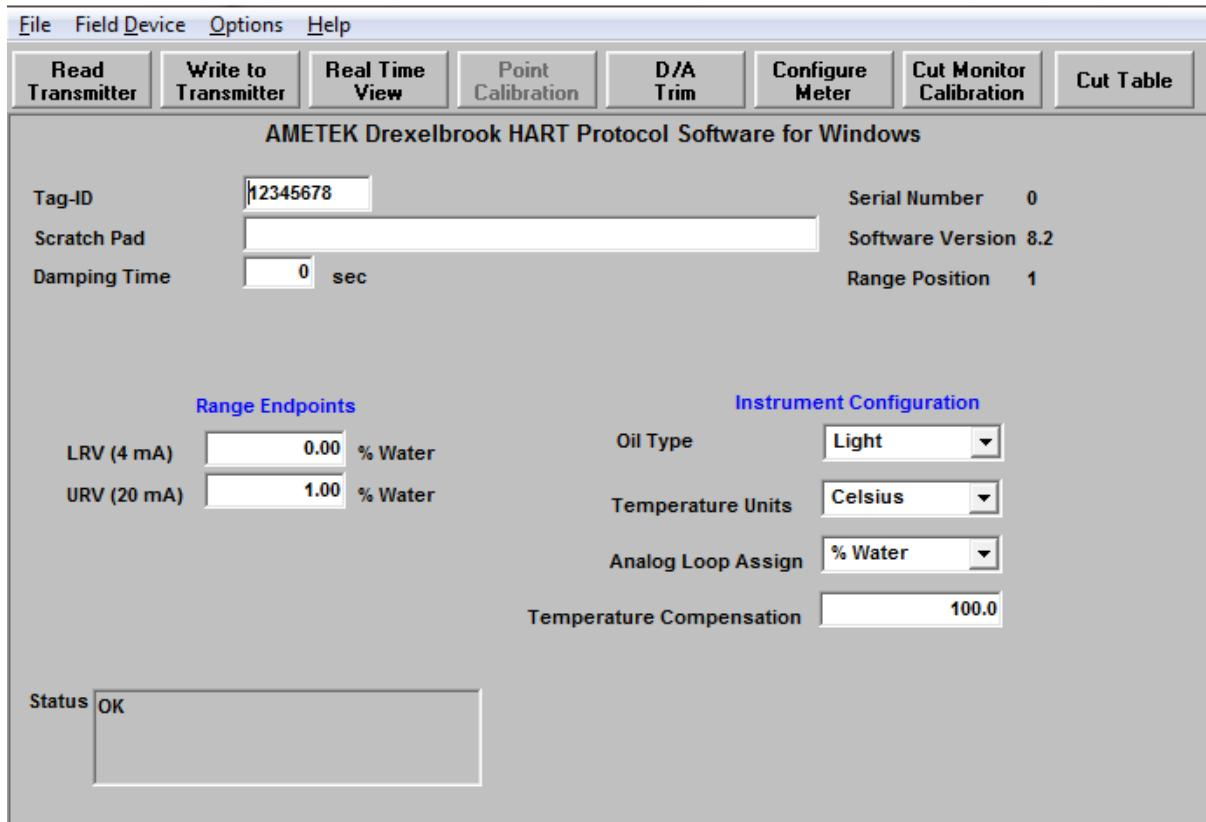

Figure 3-3
- D. The next view, shown in **Figure 3-3**, appears automatically, displaying current transmitter database for calibration set-up for your selected Tag ID. The Scratch Pad will automatically show the last message (last user, last calibration, etc.) up to 32 characters. If this is a new transmitter, the Tag ID is user-defined. Serial number, transmitter software version, range, etc. is automatically entered from the "name plate data" embedded in the transmitter: